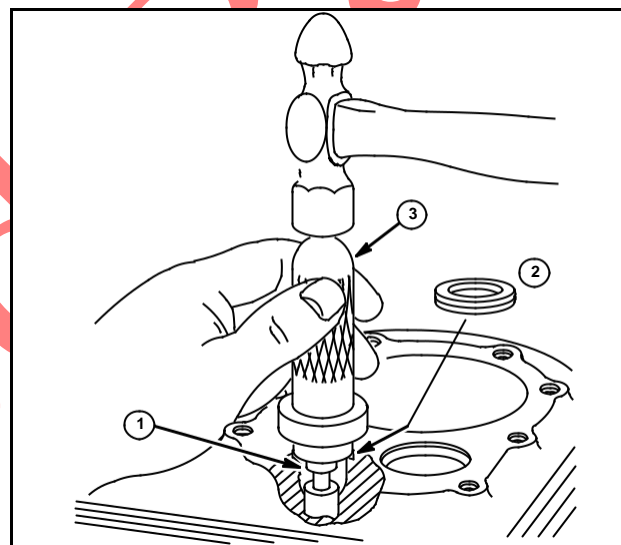

Fig. 15
2. Insert the pilot (1) into the valve guide.
3. Drive the valve insert (2) into place with the driver (3), as shown in Fig. 15.
NOTE: For aluminum alloy cylinder models only, use the old valve seat insert as a spacer between the driver and the new insert, Fig. 15.